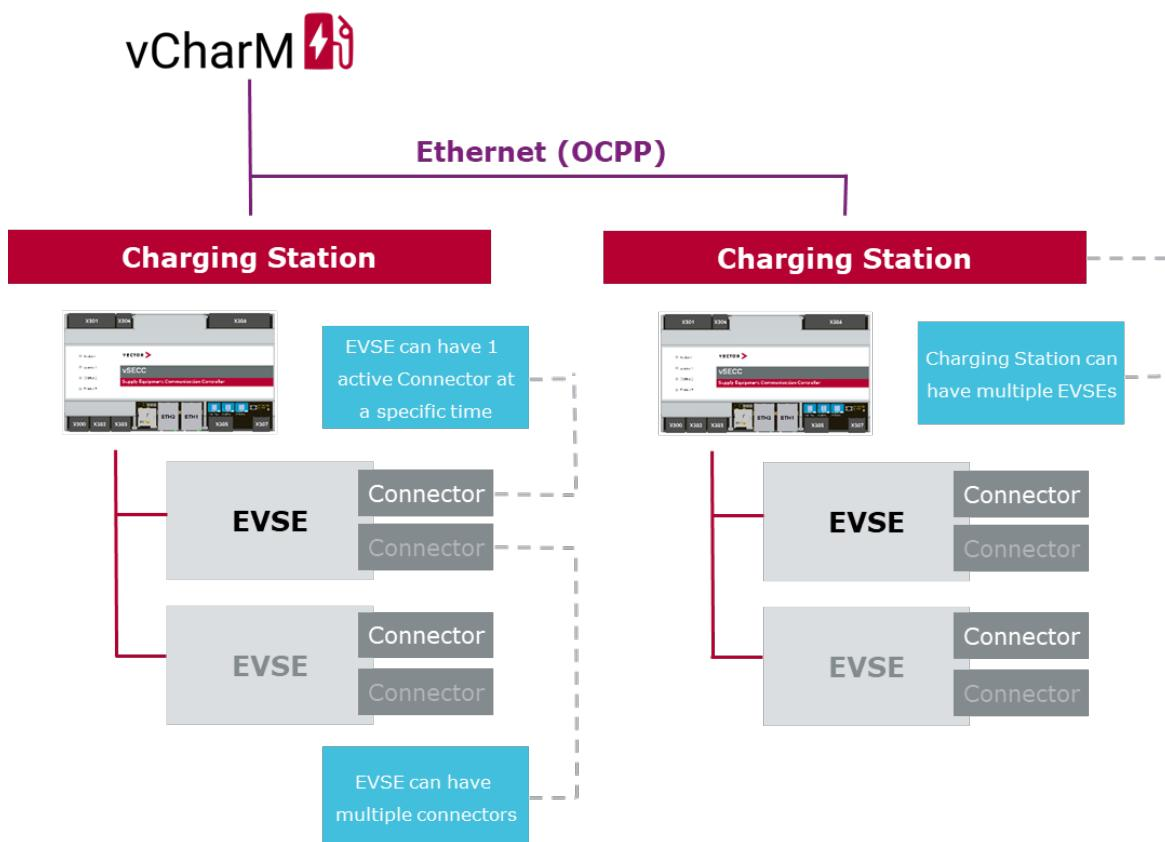

Figure 38: Overview according to OCPP 2.0: Part 1
**Connector** The term connector describes an electrical outlet on a charging station. It is connected to a single EVSE. An EVSE can have multiple connectors attached to it, e.g. one CCS and one CHAdeMO compliant outlet. However, an EVSE will always use only one of its connectors exclusively. The complete 3-tier model is visualized in Figure 38.